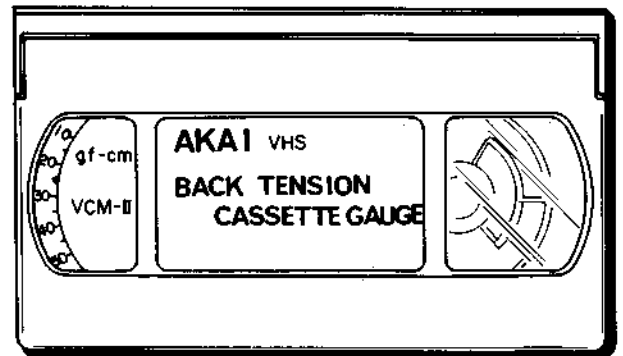

Fig. 5-5 Back Tension Jig. (AJ-751181)
- 1) Set the back tension Jig (AJ-751181) as shown in Fig. 5-5, and put the some weight on the back tention Jig.